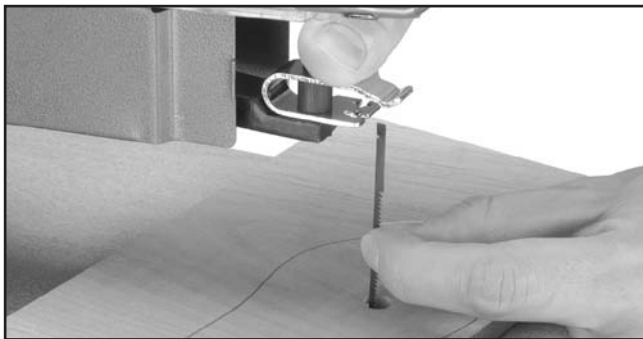

Figure 23. Example of installing blade for an inside cut.
4. Insert the blade through the previously drilled hole in the workpiece (**Figure 23**).